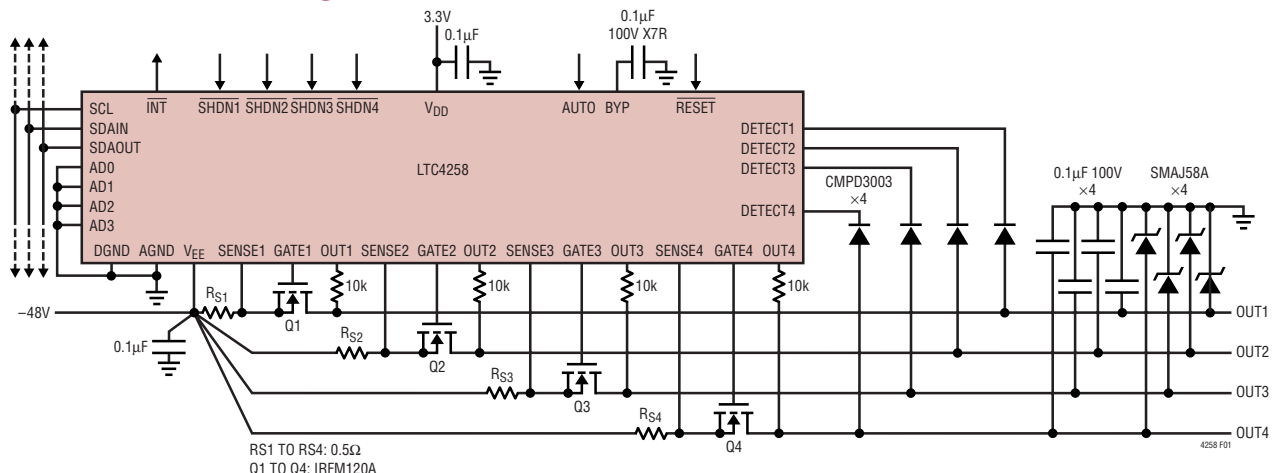

Figure 1. Complete 4-Port Powered Ethernet Power Source
The LTC®4258 is a quad –48V Hot Swap™ controller designed for use in IEEE 802.3af compliant Power Sourcing Equipment (PSE). It consists of four independent ports, each with output current limit, short-circuit protection, complete Powered Device (PD) detection and classification capability, and programmable PD disconnect using AC or DC sensing. Used with power MOSFETs and passives as in Figure 1, the LTC4258 can implement a complete IEEE 802.3af-compliant PSE.